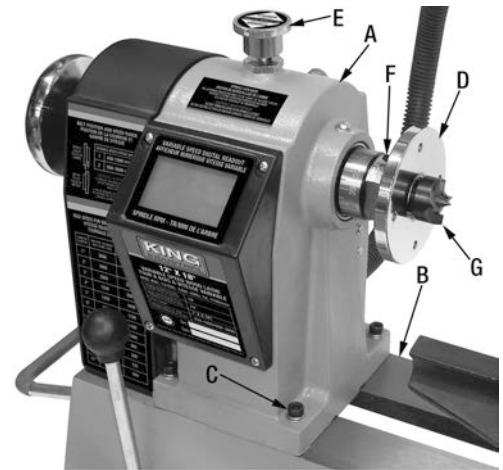

FIGURE 4
1. Install the headstock (A) Fig.4 on the top of the wood lathe bed (B) using 4 cap screws, washers and spring washers (C). Do not completely tighten the cap screws, an alignment adjustment will be needed later on to make sure the spindle is in perfect alignment with the tailstock.
1. The faceplate (D) Fig.4 gets installed to the outside thread of the headstock spindle. Screw the faceplate onto the headstock spindle.
2. To secure the faceplate, lock the spindle using the spindle lock (E) Fig.4. Pull the spindle lock upwards and turn it so the "locked" arrow faces the front of the machine. Tighten the faceplate to the spindle, then secure it to the spindle by tightening both sets screws (F) on the faceplate collar (only one is shown).
1. The spur centre (G) Fig.4 gets installed inside the headstock spindle, simply push the spur centre quickly and firmly into the spindle. A properly installed spur centre will not pull out by hand.